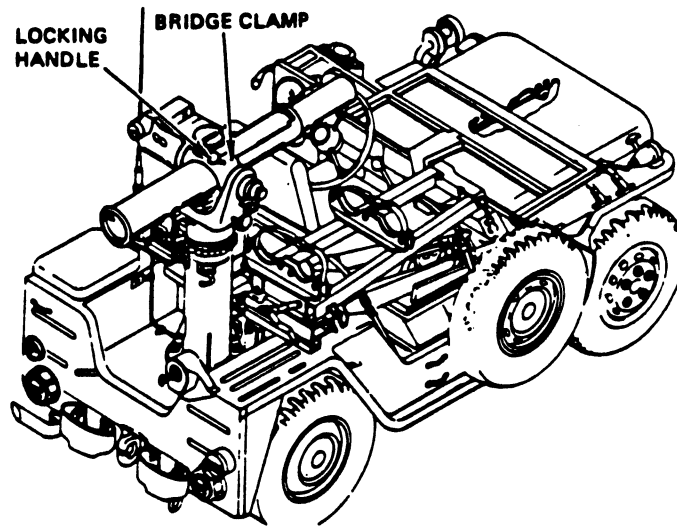

Fig 4-22. Locking encased missile.
Step 8. Lower the bridge clamp and lock the missile by pushing down on top of the bridge clamp and pulling the bridge clamp locking handle down and backward (fig 4-22).